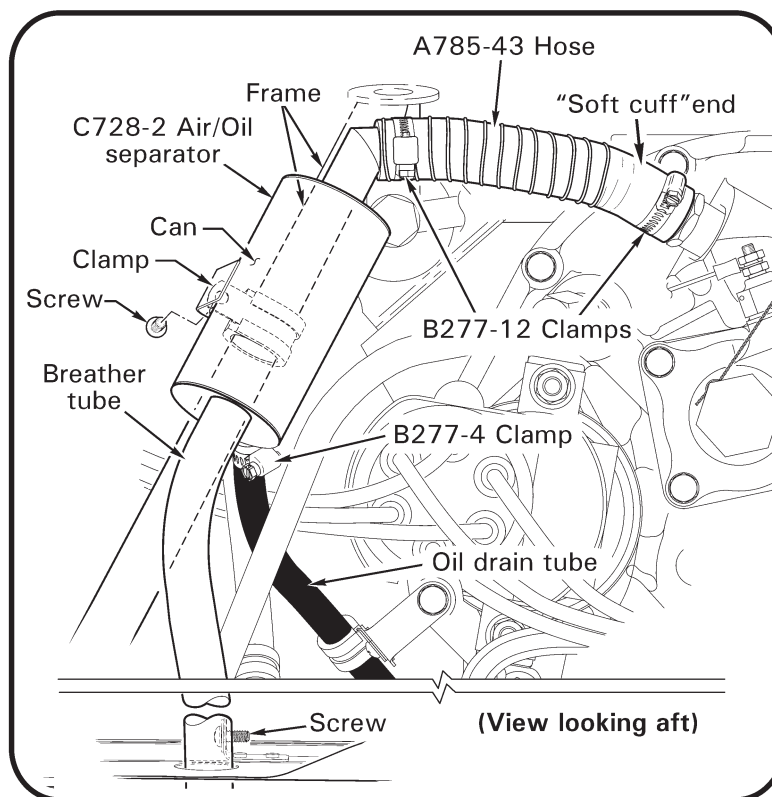

FIGURE 1
1. Refer to Figure 1. For each affected helicopter, obtain one A785-43 crankcase breather hose, available from RHC Customer Service.
2. Remove engine RH cowling. R44 IIs only: Remove air box assembly per R44 Maintenance Manual (MM) § 6.470.